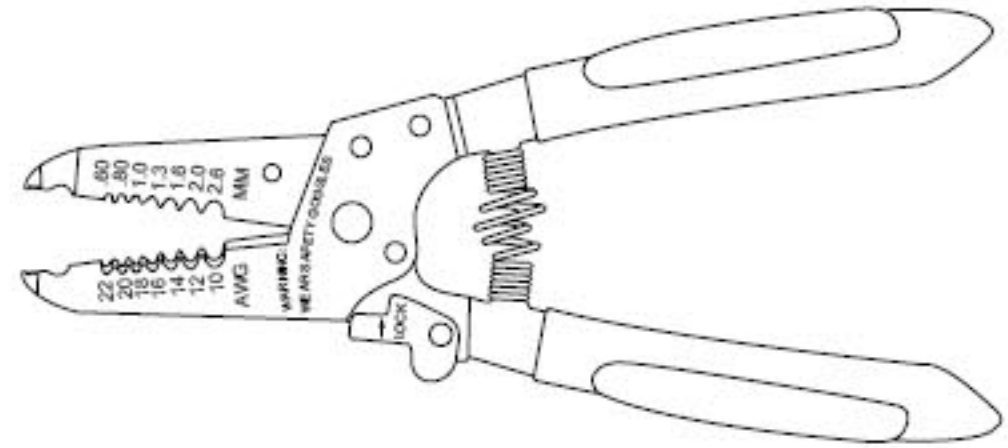

Figure 1
1.2 The buffer stripping tool is a plier-type wire stripper. The notches in the tool's jaws are marked with both AWG (American Wire Gauge) and metric hole sizes (Figure 1).